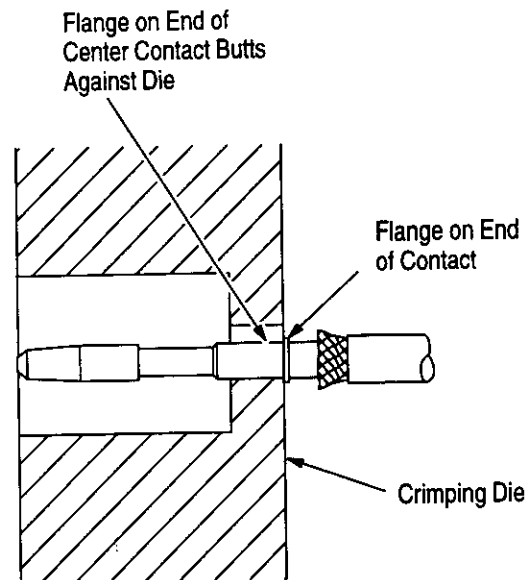

Figure 3
*Make sure that the flange on the end of the center contact butts against the crimping die. See Figure 3.*